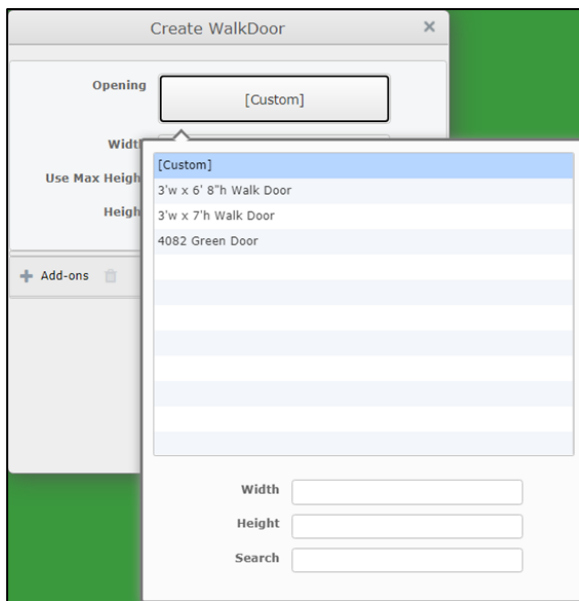

Figure 3: The drop-down list of available doors for the *Walk Door* Opening.
**Opening** – Click on the *Opening* field to activate a drop-down list of the available *Walk Door* options. (See Figure 3, left.) You can either select an item from this list by clicking on it, or you can choose the *Custom* option to enter a door *Height* and *Width* not otherwise available on this list.